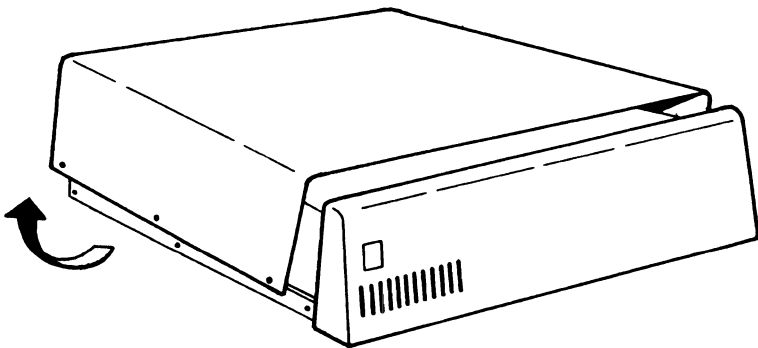

Figure 6A
2. Remove the expansion chassis cover by lifting the rear of the cover and pulling towards the back of the expansion chassis, as shown in Figure 6A.